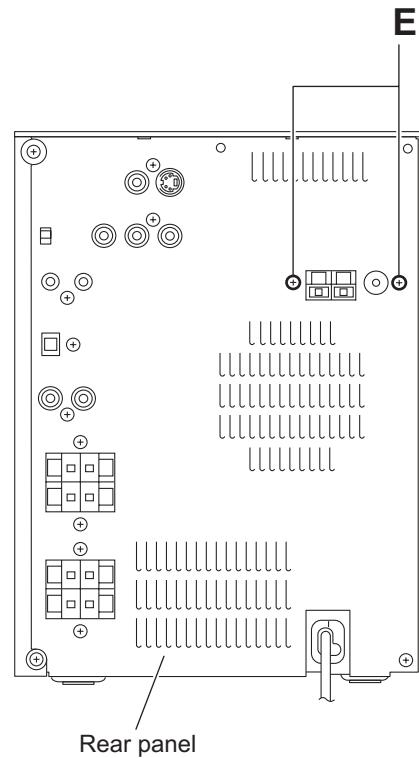

Fig.10
(See Figs.10 and 11)
- (1) From the back side of the main body, remove the two screws **E** attaching the tuner to the rear panel. (See Fig.10.)
- Remove the tuner and video board as required. (See Figs.10, 11, and 13)